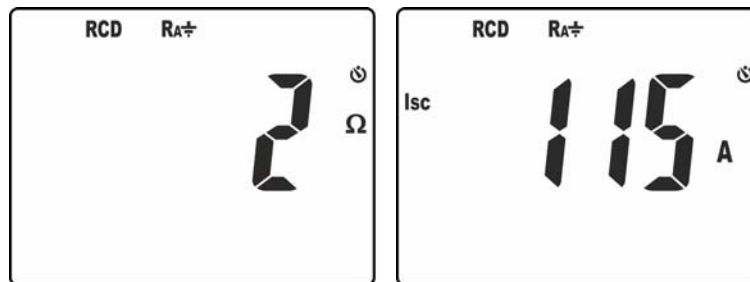

Fig. 22: Results of measurement of overall earth resistance
9. The screen in Fig. 22 – left side shows the value of overall earth resistance. Press keys / or  to display the value of assumed short-circuit current **I_{sc}** (see § 9.3)